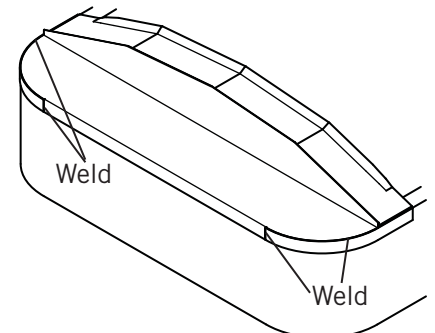

Figure 12
- 5) **Figure 12.** Weld both pieces to the front cap.